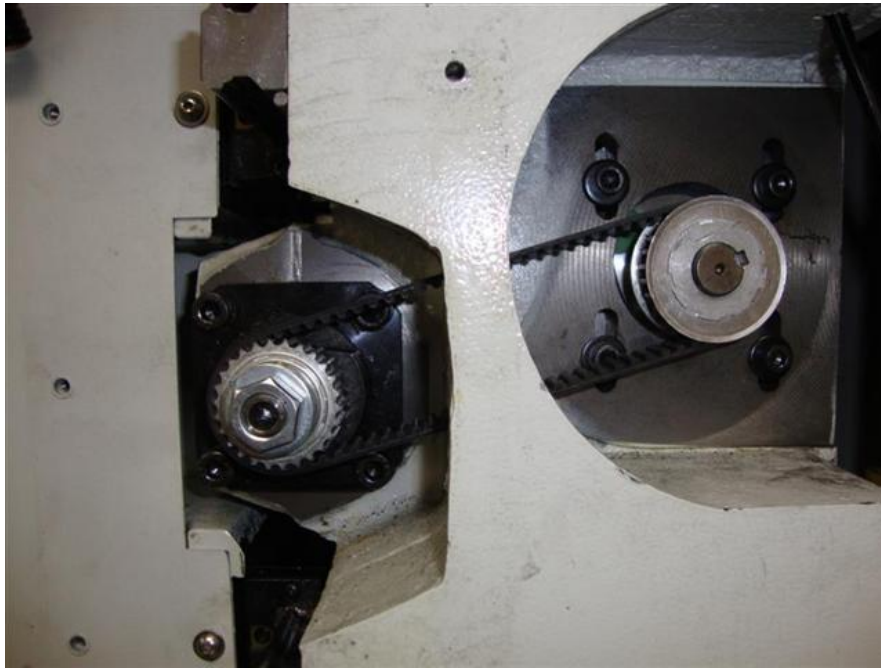

Figure 6.5a
- a. Loosen the four SHCS shown in figure 6.5a. Lower the belt adjusting screw found on the underside of the X-axis casting until the belt can be freely removed.